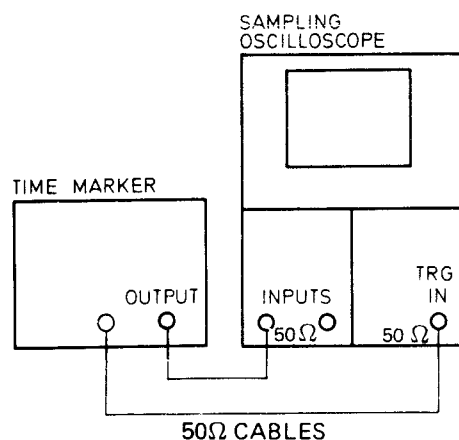

Figure 4-3. Oscilloscope Test Set-up
1. Connect equipment as shown in fig. 4-3, set time marker to 2 ns and oscilloscope to 1 ns/div. Check oscilloscope for horizontal accuracy.